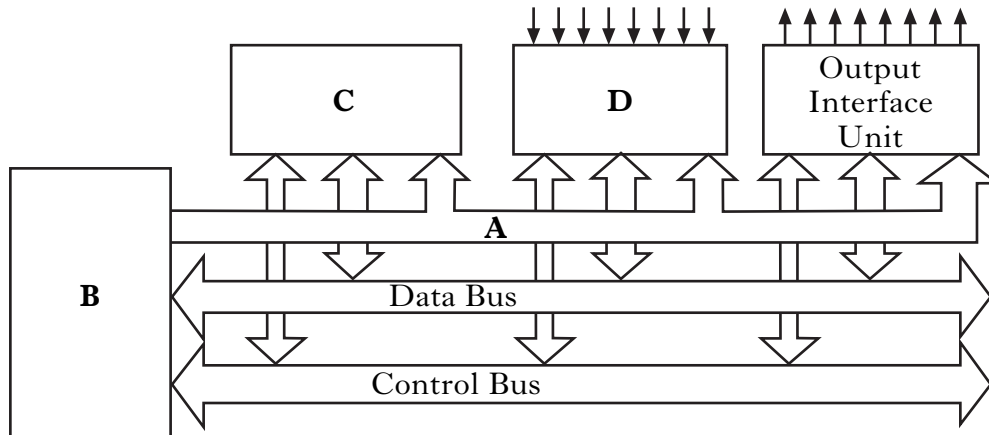

Figure Q1(a)
1. (a) Figure Q1(a) illustrates the basic architecture of a microcontroller. Some elements have been identified with the letters A to D. On **Worksheet Q1(a)**, complete Table Q1(a) by entering the names of the elements labelled A to D.